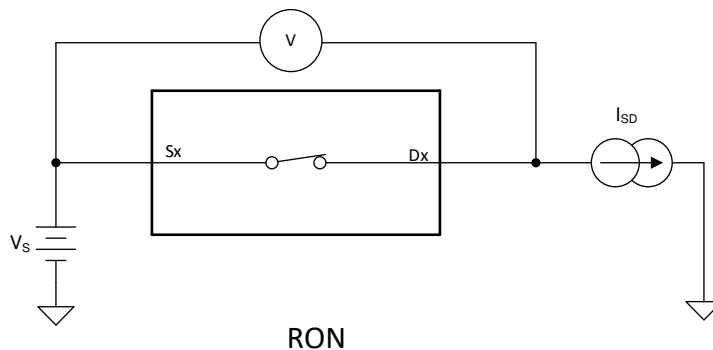

图 6-1. On-Resistance
The on-resistance of a device is the ohmic resistance between the source (Sx) and drain (D) pins of the device. The on-resistance varies with input voltage and supply voltage. The symbol R_{ON} is used to denote on-resistance. 图 6-1 shows the measurement setup used to measure R_{ON} . Voltage (V) and current (I_{SD}) are measured using the following setup, where R_{ON} is computed as $R_{ON} = V / I_{SD}$.